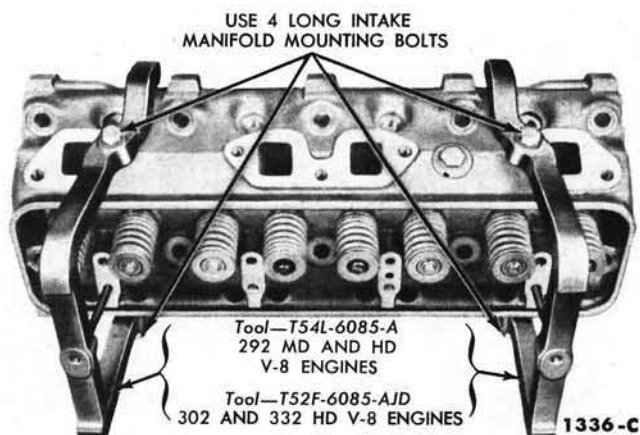

FIG. 19—Cylinder Head Holding Fixtures
4. Remove the cylinder head bolts. Install the cylinder head holding fixtures (Fig. 19). Lift the cylinder head off the block. **Do not pry between the head and block.** Remove the head gasket.